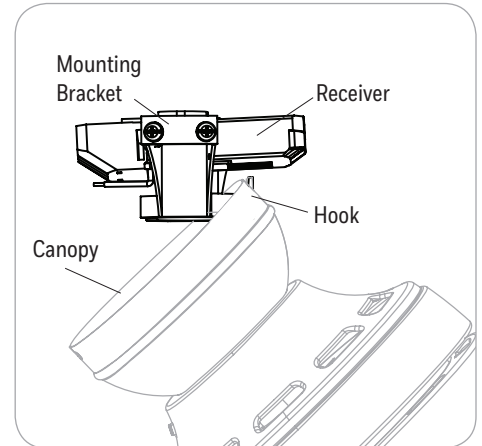

Figure 4.3
3. Raise the motor assembly and place the canopy on the hook of the mounting bracket to free hands during the wiring process (Figure 4.3). Then, insert the receiver in the mounting bracket with the flat side facing up.